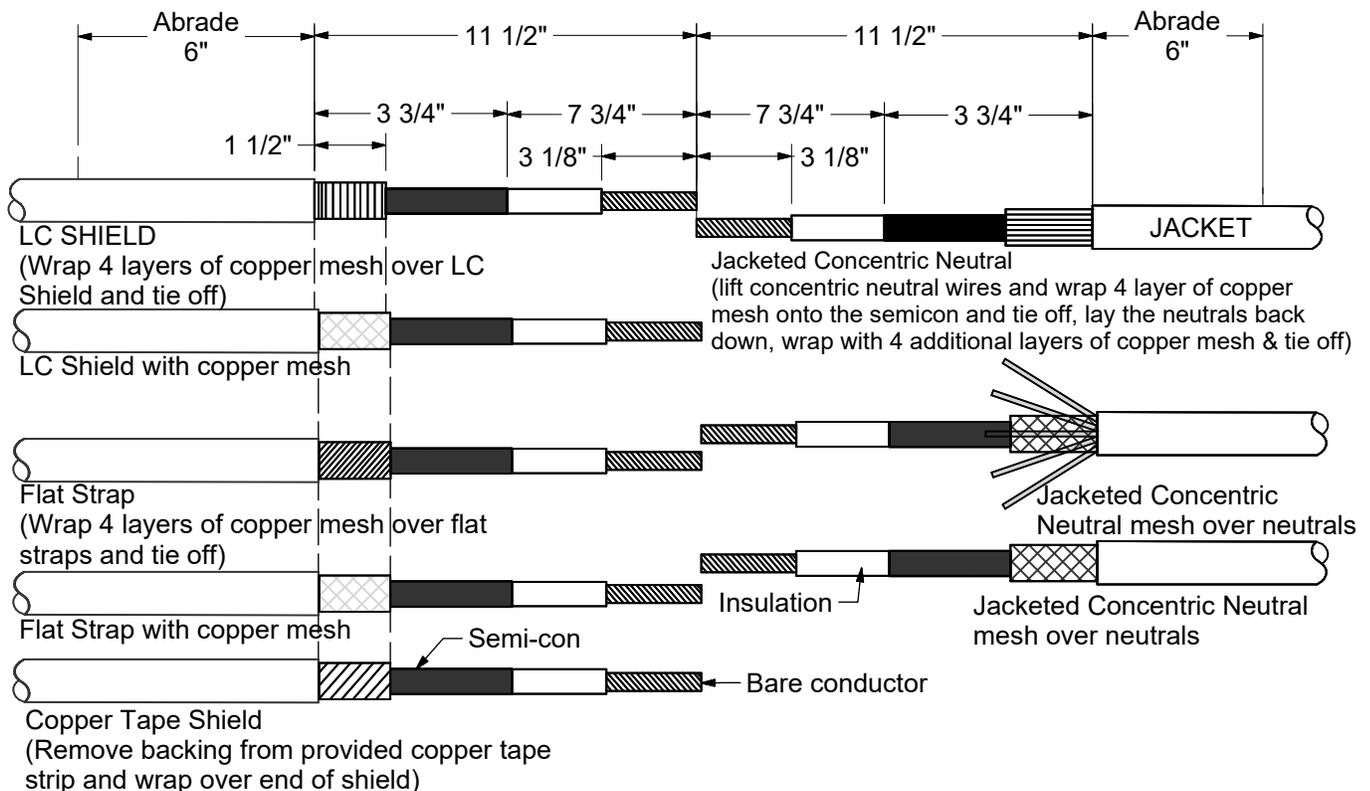

Figure 1
1. Prepare the Cables and Apply the Copper Mesh as Shown in Figure 1.
- A. The copper mesh installation requirements, for each jacketed cable type, are shown in Figure 1. If bare concentric neutral cable must be spliced, go to Step "1" for cable preparation instructions.
- C. Use Stock #22 05 213 or the aluminum oxide strip included in the splice kit to abrade/scuff tcable jacket, see Figure 1.